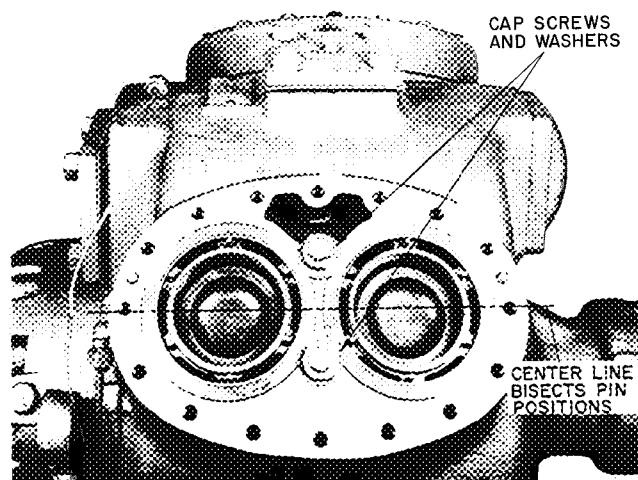

Fig. 43 — Position of Cylinder Sleeves
6. Rotate sleeve so any 2 valve lifter pin holes lie equal distances from longitudinal axis of compressors (Fig. 43). In this position lifter pins line up with suction valve springs.
CAUTION: Never operate compressor with heads or valve plate removed. (Fig. 43)